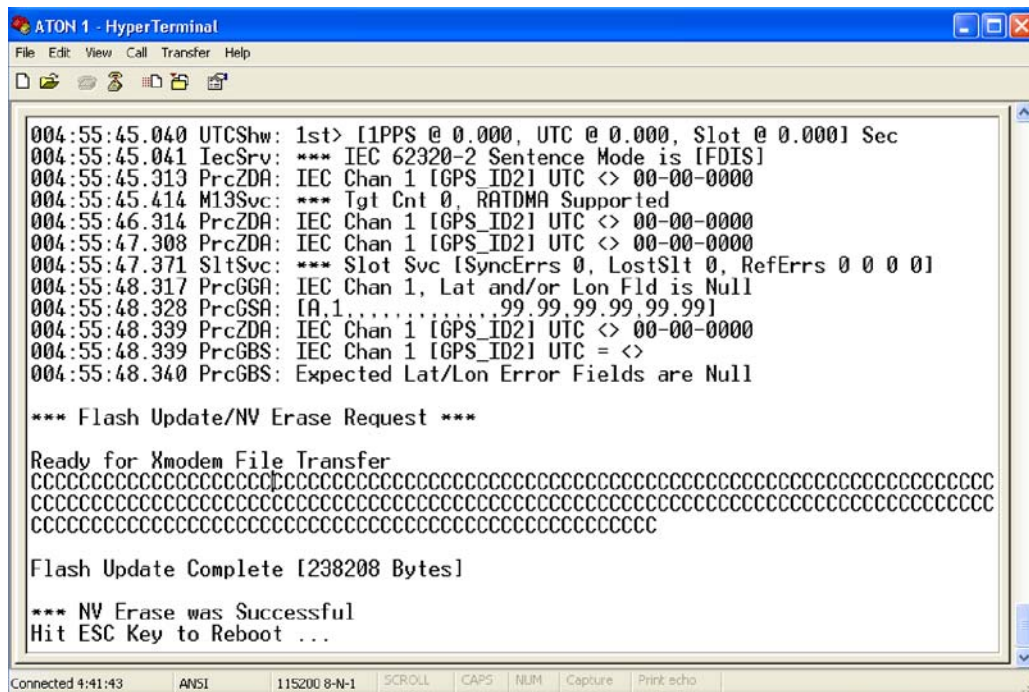

Figure B-3. Firmware Update Successful Message
- (6) When the binary file is completely transferred, Figure B-3 appears, displaying the image size and a message that the erase of the NV was successful. The message "Hit ESC to Reboot" also appears. Press Esc to reboot. Trace message should begin to be displayed on the screen.